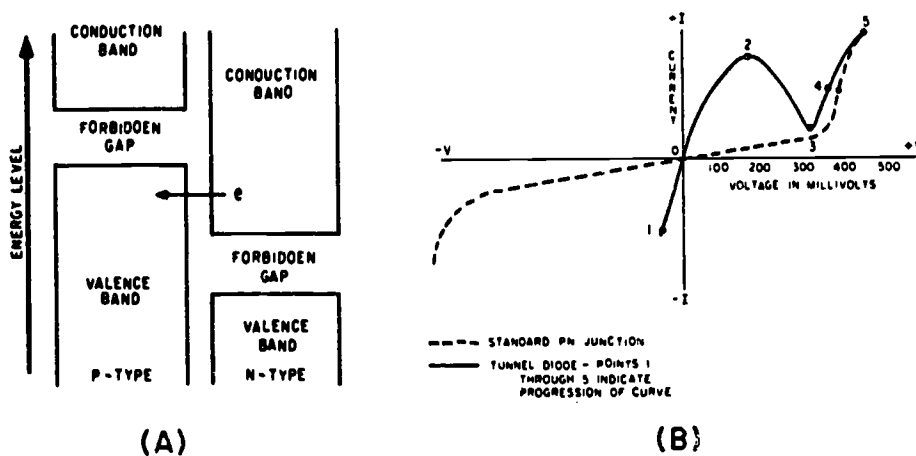

Fig 3-7. Tunnel diode energy diagram with 50 millivolts bias.
Figure 3-7, view (A), shows the energy diagram of a tunnel diode with a small forward bias (50 millivolts) applied. The bias causes unequal energy levels between some of the majority carriers at the energy band overlap point, but not enough of a potential difference to cause the carriers to cross the forbidden gap in the normal manner. Since the valence band of the P-material and the conduction band of the N-material still overlap, current carriers tunnel across at the overlap and cause a substantial current flow. The amount of current flow is marked by point 2 on the curve in view (B). Note in view (A) that the amount of overlap between the valence band and the conduction band decreased when forward bias was applied.